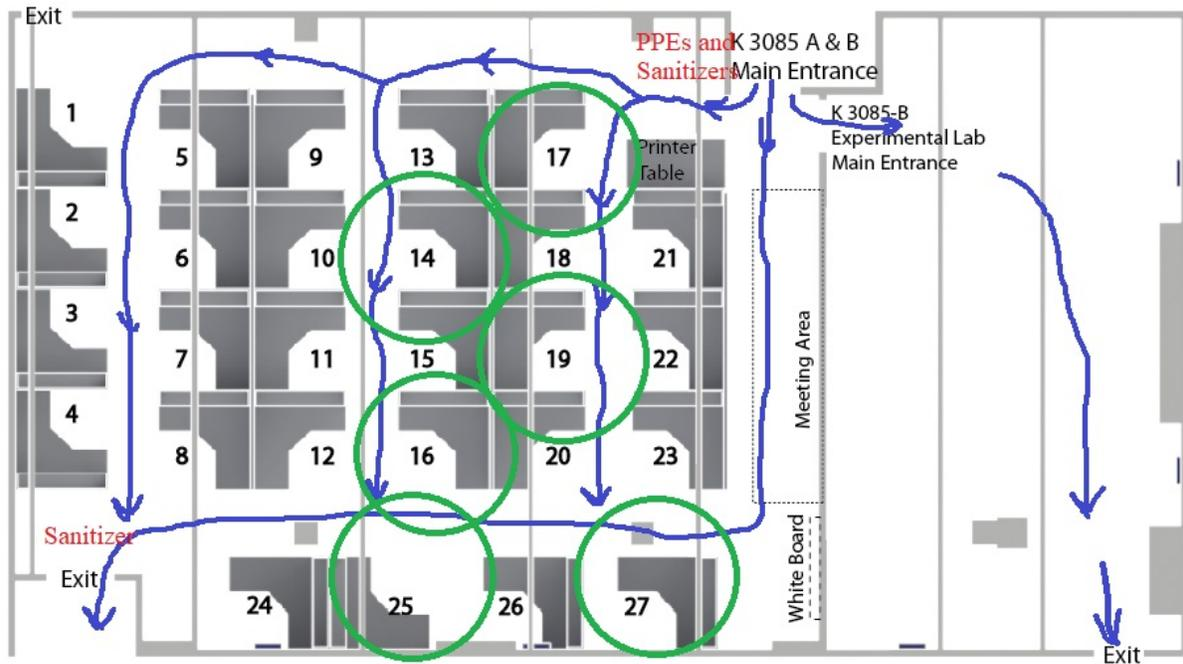

Fig. 1. Location of office desks in Kaiser 3085-A Office Spaces, and the direction of traffic.
When coming to take experimental measurements and/or configure and work on the real-time simulators in K3085-B, the students may also use their desks and computers in K3085-A. While moving through the lab, the students will always make sure that the physical distancing of 2m or more is always maintained. The movement of people within the labs will be according to the arrows depicted in Figs. 1 and 2 on the plan.
The floor plans for K3085-A and K3085-B are provided below in Figs. 1 and 2. The maximum occupancy for these two labs are 27 and 8 people, respectively. It is envisioned that only up to 4 people will be simultaneously in both of these labs during this period.
Please see the floor plans for K3085-A and K3085-B in Figs. 1 and 2. The 2-meter radius circles are shown in green around the intended workplaces (benches) with real-time simulator equipment, electronics benches, motor bench, and the identified
The directions of one-way movement of people is shown in Figs. 1 and 2. We need to request Matthew to put the same type of directional arrows on the floor (according to this plan) as he did in the Kaiser Building.
We will provide hand sanitizers by each entrance as indicated in Figs. 1 and 2, and prop the doors open while the laboratory is in use during this special period.
Yes. The entrances and exits are marked in Figs. 1 and 2, and the unidirectional movement of people is also marked such that there is a clear separation of incoming and outgoing workers.
The 2-meter or greater physical distancing is shown in Figs. 1 and 2. The shared equipment and real-time simulators will be used only by a single individual at a time and cleaned before and after their use. There will be an additional time
Personnel will be required to sanitize hands when entering and leaving the room. The hand sanitizers will be placed on the tables as shown in Figs. 1 and 2.
UBC and ECE is purchasing the PPEs and sanitizers centrally, and we will try to use those and place them on the two dedicated areas identified in K3085-A and K3085-B, as shown in Figs. 1 and 2.
Instructions will be posted on the four doors of the lab. ECE Engineering Services will be placing the Arrows signs on the floor indicating the direction of walking to ensure one-way traffic according to the plan shown in Section 5, see Figs. 1 and 2. The two disinfectant/sanitizer stations (see Figs. 1 and 2) will have associated instructions. Common areas will have instructions for cleaning and a sign-up sheet showing all past users and the cleaning record.
We have requested the ECE Engineering Services to install the stations for PPEs and sanitizers in K3085-A and B in the locations indicated in Figs. 1 and 2 above. The indicated numbers are expected to last for (2) two months, after which we will re-evaluate our needs. It is also noted that the students working in the lab will inform the PI to supply/refill PPEs when they are about to finish.
Please see Figs. 1 and 2 above for the floor plan and layout of workplaces, direction of traffic flow, locations of PPEs, sanitizer stations, etc. Below are pictures of the workplaces that we intend to use as outlined in this plan.